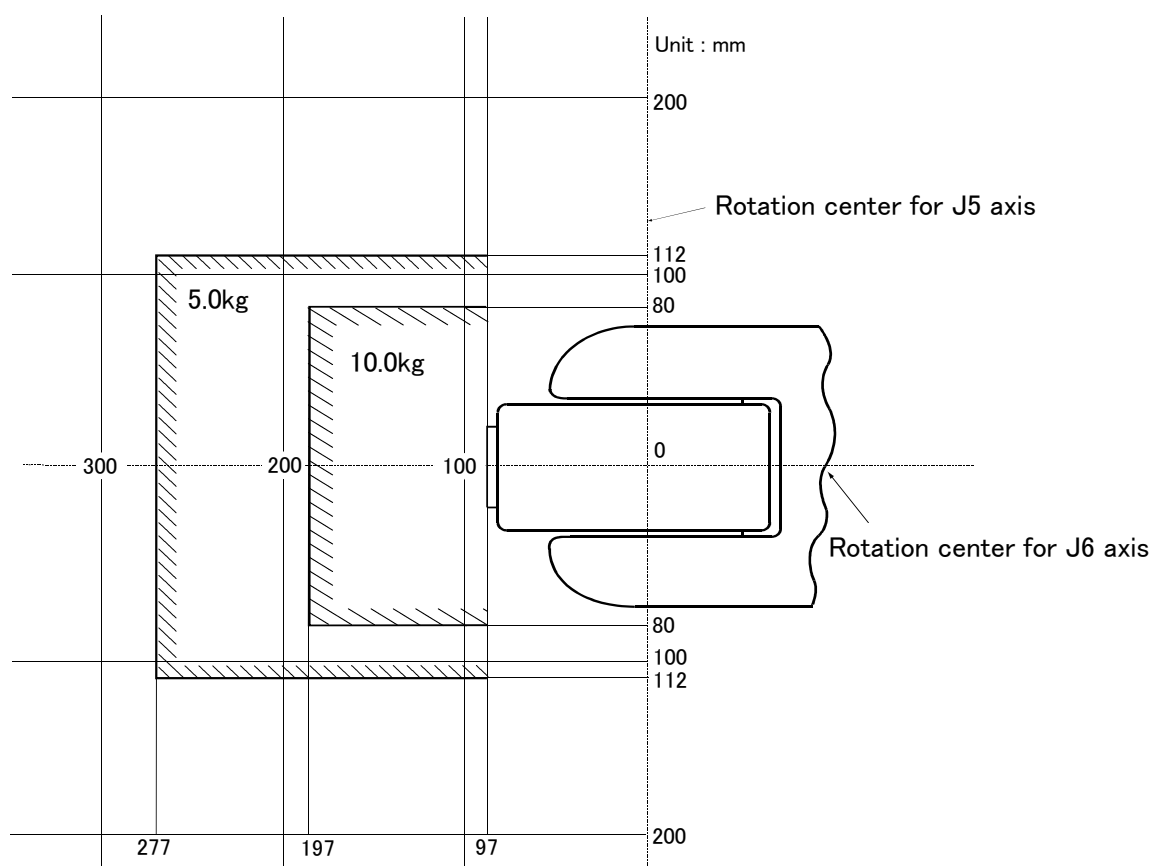

Fig.2-2 : Position of center of gravity for loads (for loads with comparatively small volume):RV-12S/12SL Series
- (1) The tooling should have the value less or equal than the smaller of the tolerable inertia and the tolerable moment found in Page 5, "Table 2-1 : Tab Standard specifications of robot"
- (2) Fig. 2-2 shows the distribution dimensions for the center of gravity in the case where the volume of the load is relatively small. Use this figure as a reference when designing the tooling.
- (3) When the load is not mass, but force, you should design the tooling so that it does not exceed the value for allowable moment described in Page 5, "Table 2-1 : Tab Standard specifications of robot"